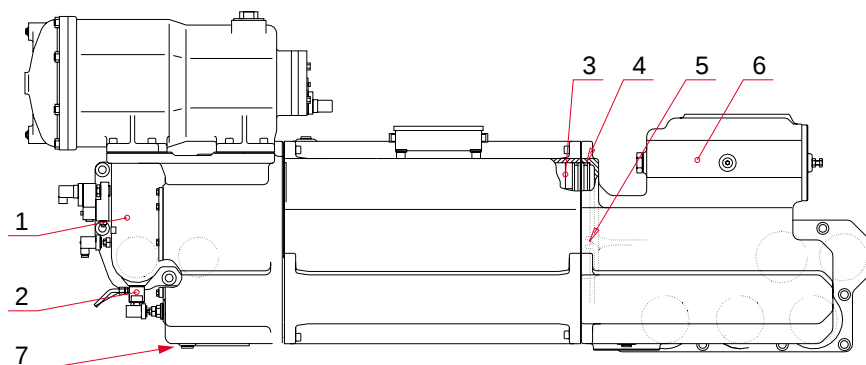

Fig 18-4
- 1** **Open the valve (2)** for the thermostatic valve and drain the housing. The rest of the lubricating oil in the cooler housing can be drained from the plug (7), see Fig 18-4.